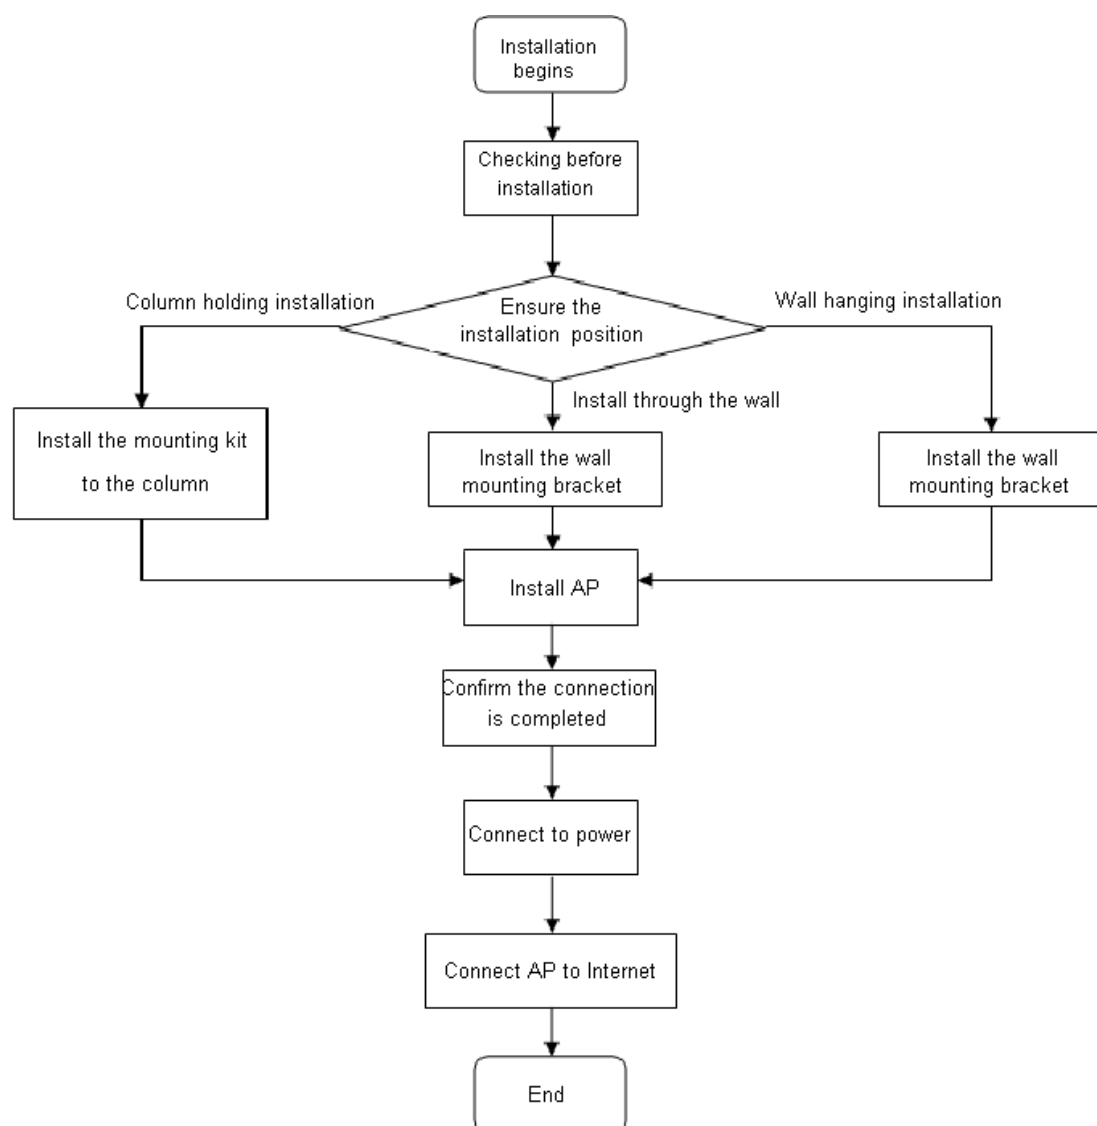

Fig 3-1 AP installation flow diagram
1. As shown in the fig 3-1, install the backplane at the bottom of DCWL-7962OT (R5) first;